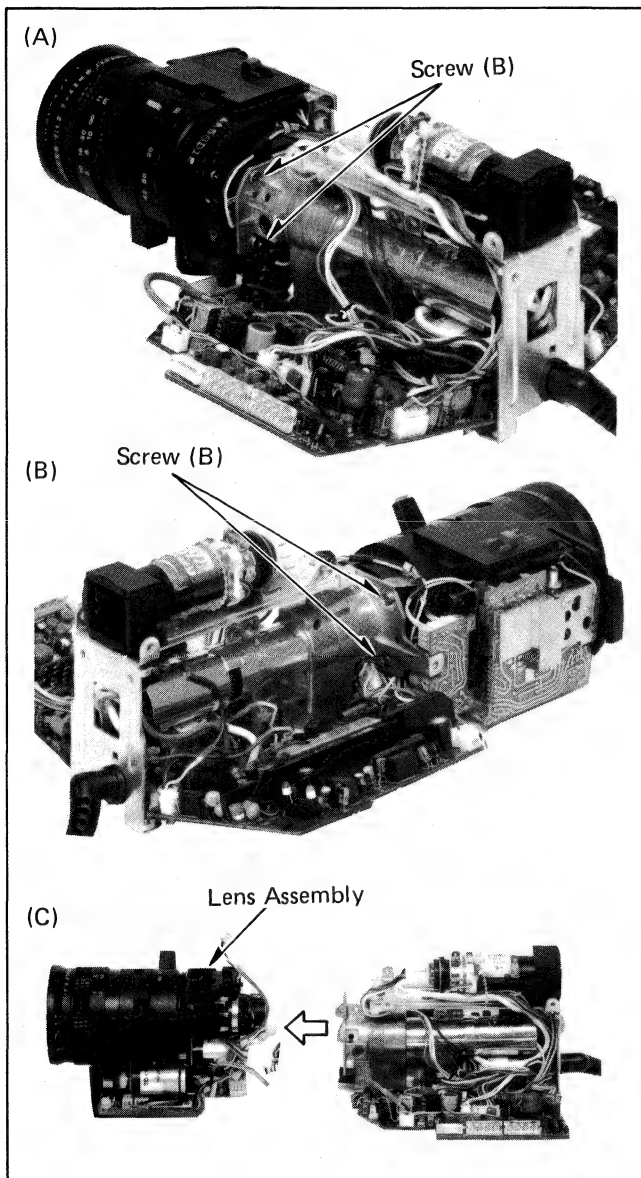

Fig. 20
- 7-3. Unscrew 4 screws (B) and remove the zoom lens (see Fig. 20-A/B/C).